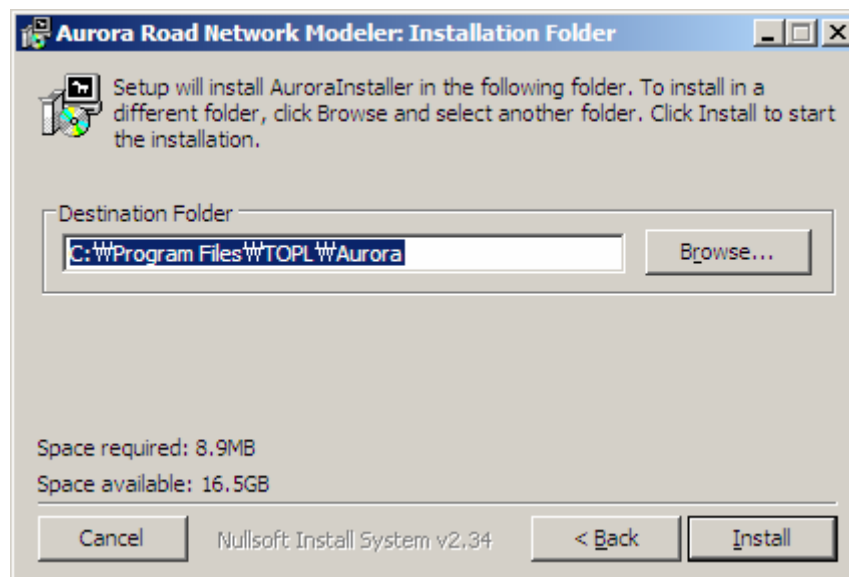

Figure 3-3: Installation folder.
5. Determine which folder to install Aurora (Figure 3-3).